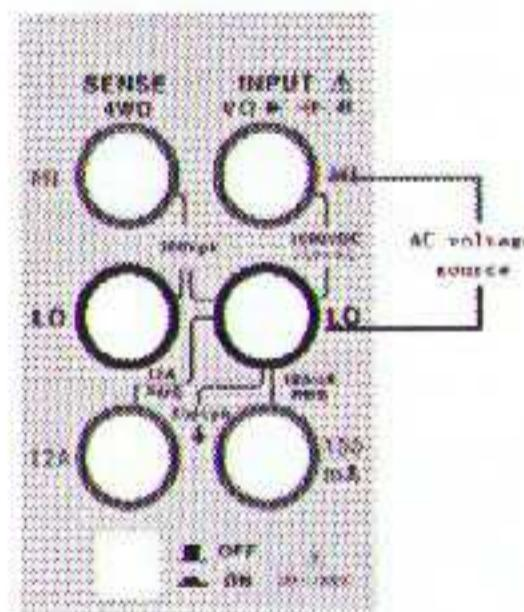

Figure 4-4 Wiring method
2. Connect the red and black test leads to the corresponding input terminals as shown in Figure 4-4.